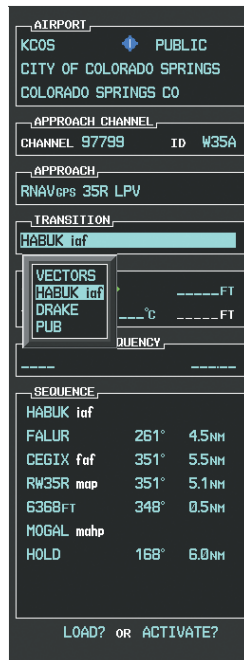

Figure 5-133 List of Available Transitions
e) Press the **ENT** Key. A list of available transitions for the selected approach is displayed as in Figure 5-133.